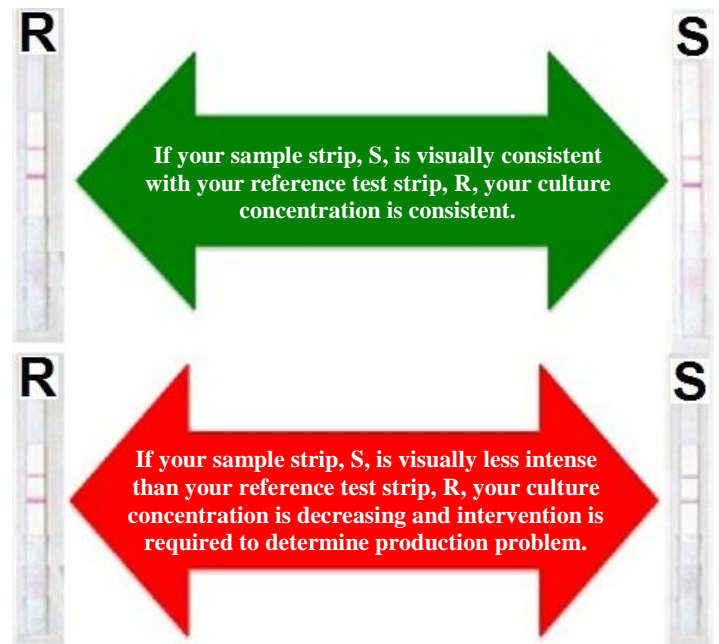

Figure 2: Comparative test procedure.
8. Read results **after 10 minutes and before 20 minutes**. For interpretation, refer to Figure 2.